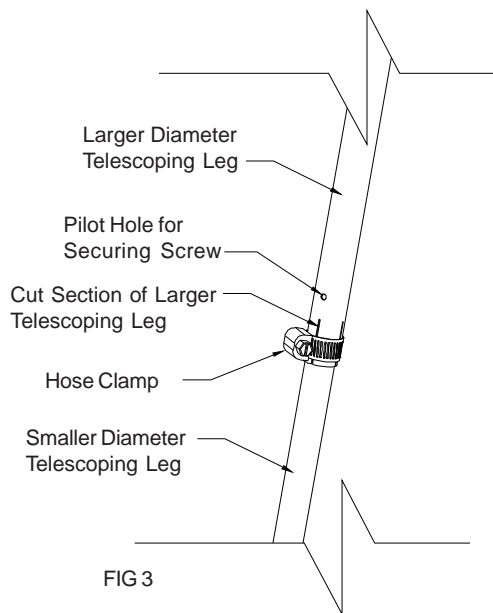
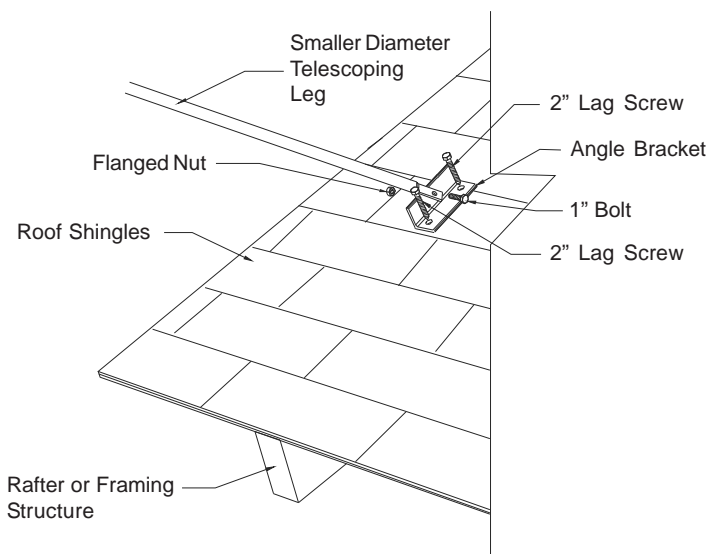

FIG 3
FIG 4 - Securing Angle Bracket
5. Determine the location of the Angle Brackets on the roof structure, rafters or framing. Secure to roof temporarily, using nails to hold in place. See Figure 4. Assemble Telescoping Tubes as follows (see Figure 3):
6. Assemble Telescoping Tube as follows (see Fig. 3):
7. Attach one end of each Telescoping Tube Assembly to each of the Angle Brackets using one (1) 1/4-20 x 1" bolt and nut. (See figure 4). The flattened tube ends can be bent as necessary.
8. Adjust the Telescoping Tubes as needed by loosening the hose clamp which secures the inner tube to the outer tube, extending to the needed length and retightening the hose clamp. Once in its final position insert the securing screw through the pilot hole (see Fig. 3).
9. Remove the nails which temporarily are holding the Angle Brackets to the roof. Secure the Angle Brackets to the roof structure using two (2) 1/4 x 2" Lag Bolts for each Bracket.